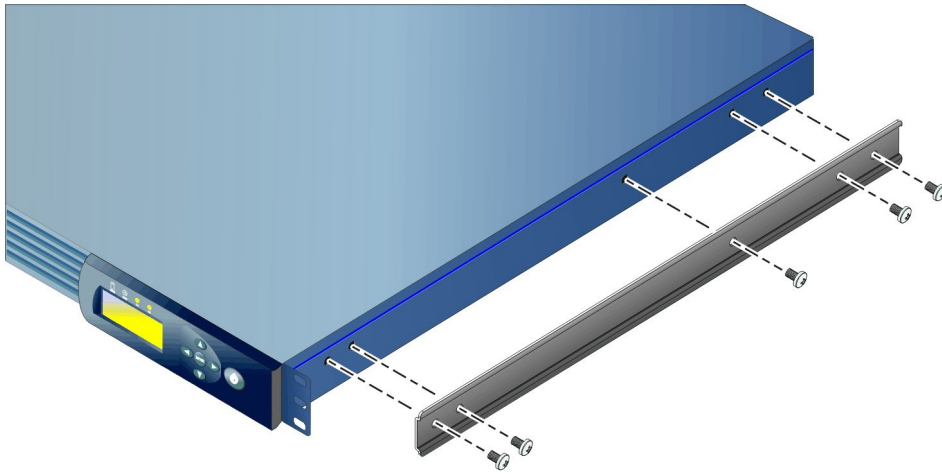

Figure 2.4. Slide Rail Installation
1. As shown in Figure 2-4, attach the left and right slide rails to the appliance with ten (10) pan-head Phillips screws (M4 x 10 cm). Use five (5) screws per side. Ensure the screws are securely tightened.